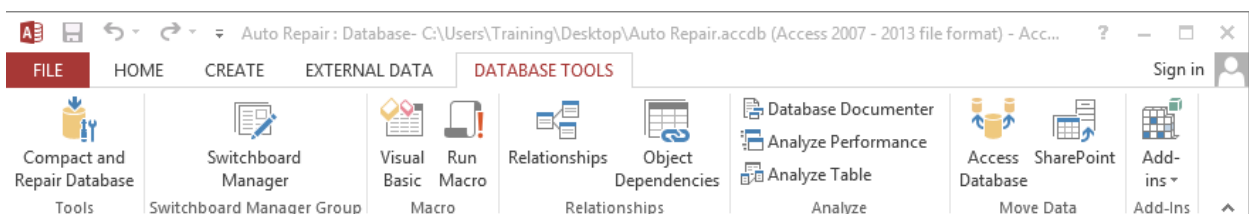

Figure 4: Switchboard Manager in the Database Tools Tab of the Ribbon
3. Open the Switchboard Manager Window: Click **Database Tools** → **Switchboard Manager** in the new Switchboard Manager group of the Ribbon (Figure 4). Note that the switchboard manager icon in the Ribbon may be different depending on your choice of icon in step 2. A dialog box appears stating that there is no valid switchboard in this database and asks if you would like to create one. Click **Yes**.